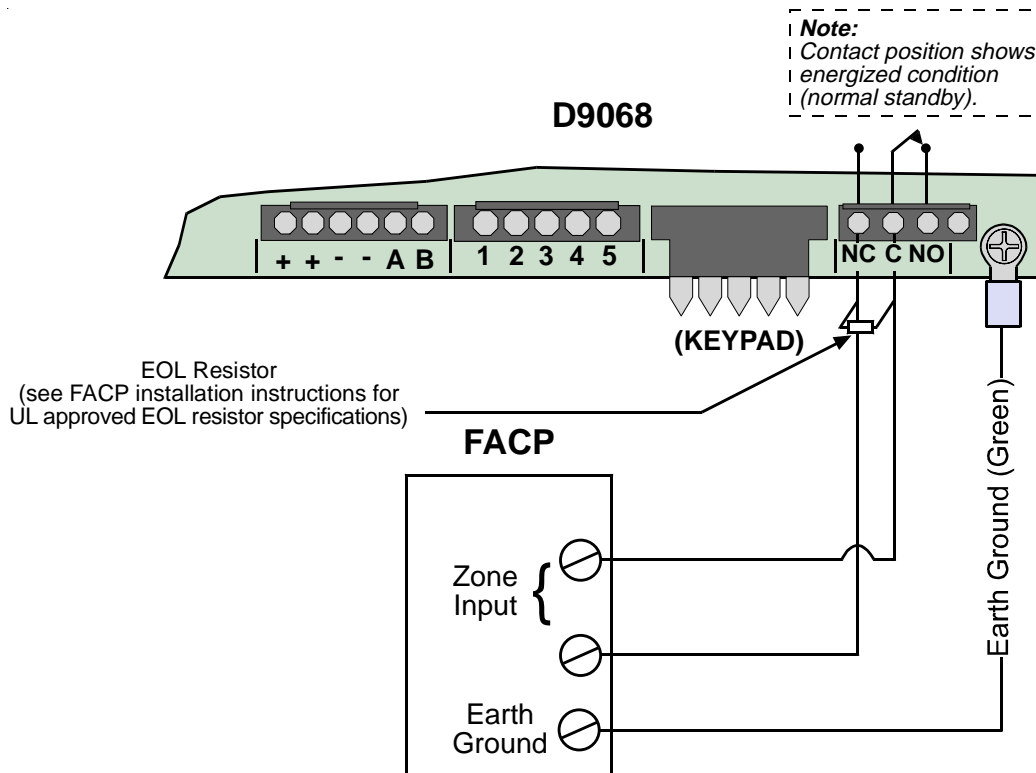

Figure 11: Typical Trouble Relay Connections (Supervised)
See Figure 11 when making connections to the D9068's Trouble Relay terminals.
- The trouble relay connections have been made according to Figures 11 and 12.